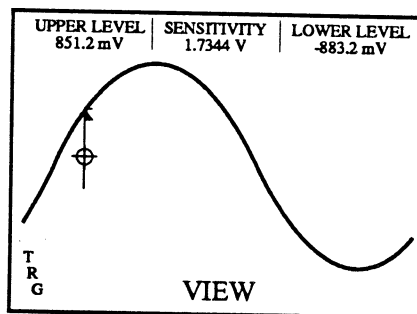

Figure 2 - View appears on the screen when the View mode is turned on.
Press the trigger View button to view the current trigger waveform and the Level/Sensitivity values (Figure 2). This allows you to select specific values that will allow the signal to qualify as a valid trigger. See the Level and Sensitivity Control descriptions on the following pages.
Note: Either TRG or ARM is displayed in the lower left corner of the screen if an Advanced Trigger mode is enabled (Figure 2). See *Chapter 18*.
1. Press the View button. The first 20% of the screen displays pre-trigger data to the left of the Trigger Marker (Figure 2). The other 80% of the screen displays post-trigger data to the right of the Trigger Marker. Use the Horiz Trigger Position button to select the amount of pre-trigger data. You can also alter the trigger Level and Sensitivity settings and read their actual values on the screen.